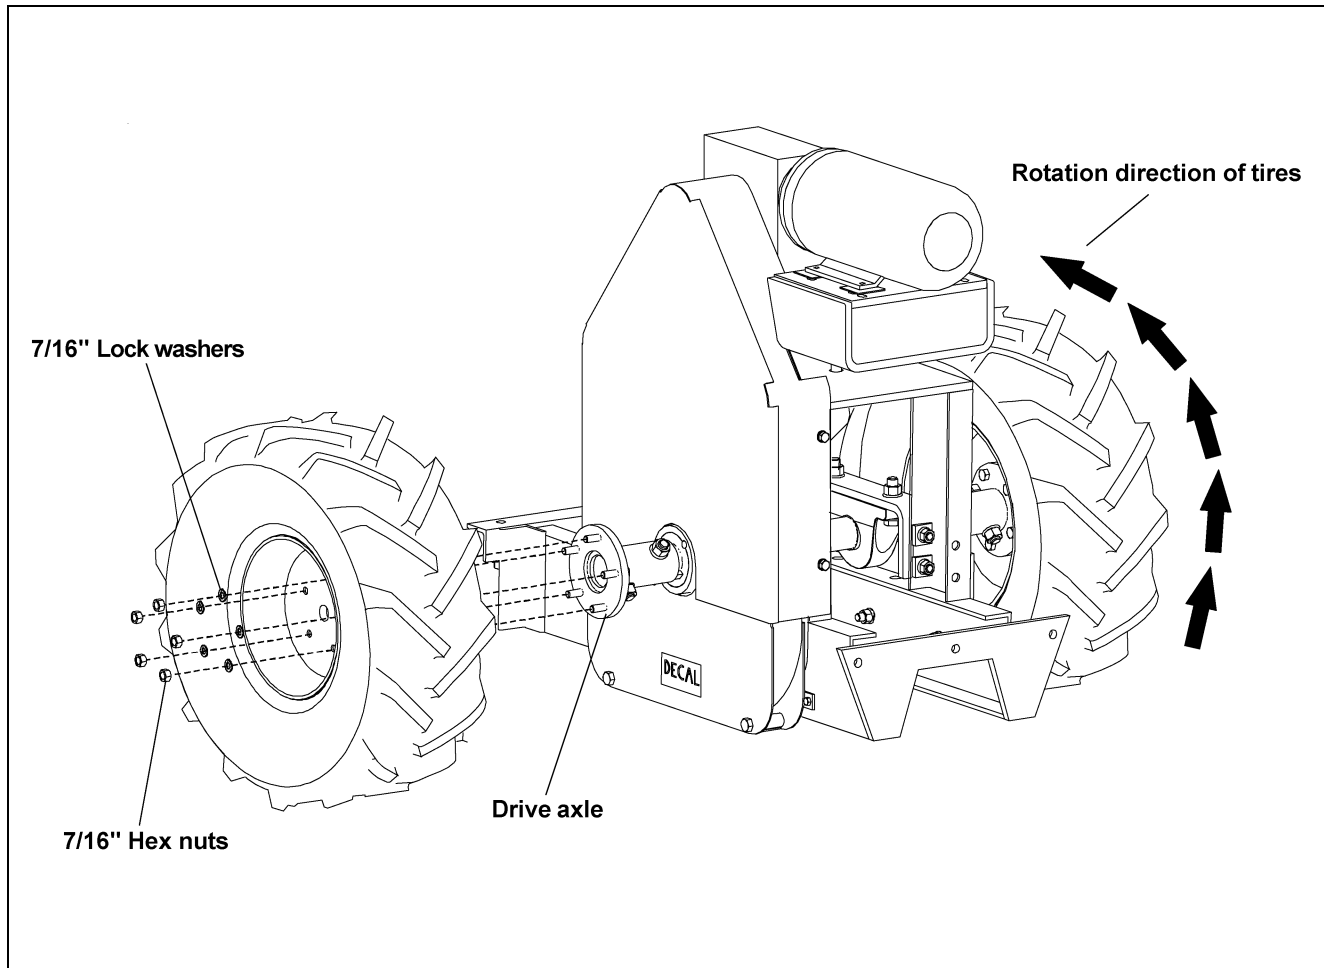

Figure 5Z
A. Assemble the tires to the drive axle assembly using ten (10) 7/16" lock washers and hex nuts. (See Figure 5Z.)
NOTE: Tires go on backwards as shown in Figure 5Z.